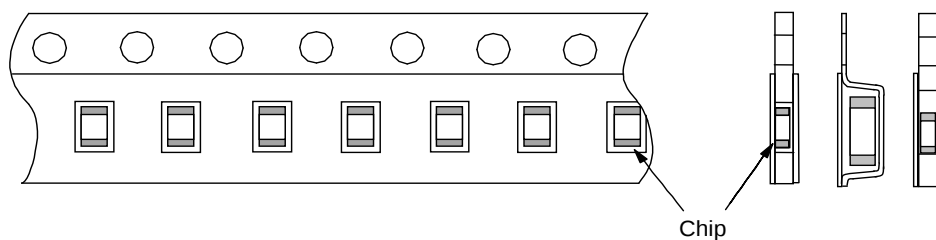

Fig.2 Dimensions of Reel
Fig.1 t:1.6mm (GCJ15:0.8mm)	 Fig.2
1.11 Reel is made by resin and appeaser and dimension is shown in Fig 2.